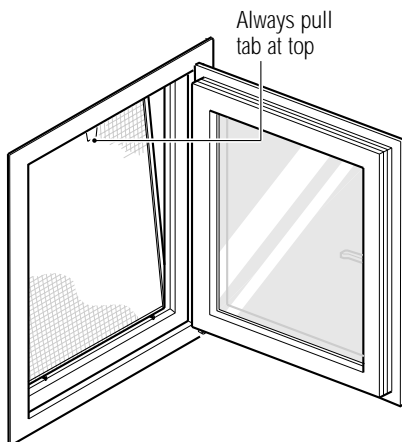

Figure 6-3. Insert bottom clips first
4. Place the screen clips on the bottom screen bar onto the window frame as shown in figure 6-3, while holding the top of the screen angled out at about 15 degrees. Hold the top of the screen by the tab.